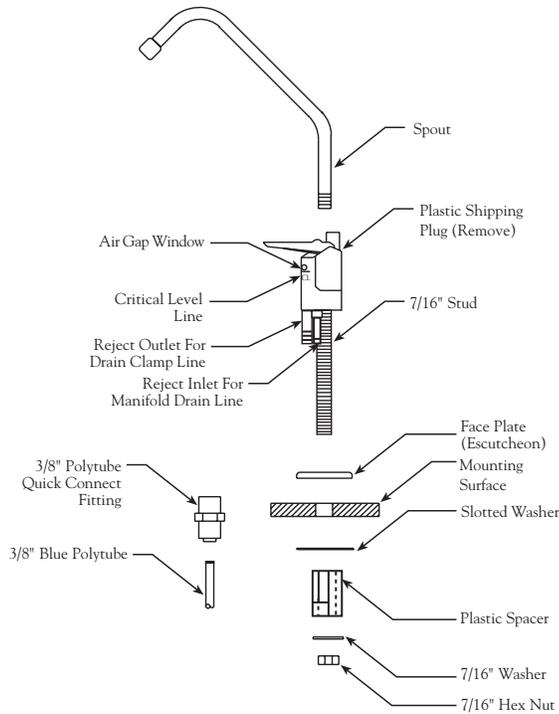

Figure 2
3. Assemble and attach the Faucet (Refer to Fig. 2, page 8.)
- Check the Air Gap Window on the Dispensing Faucet to be sure that the drain water is flowing. (Refer to Figure 2, page 8.) The R.O. System is now making water.